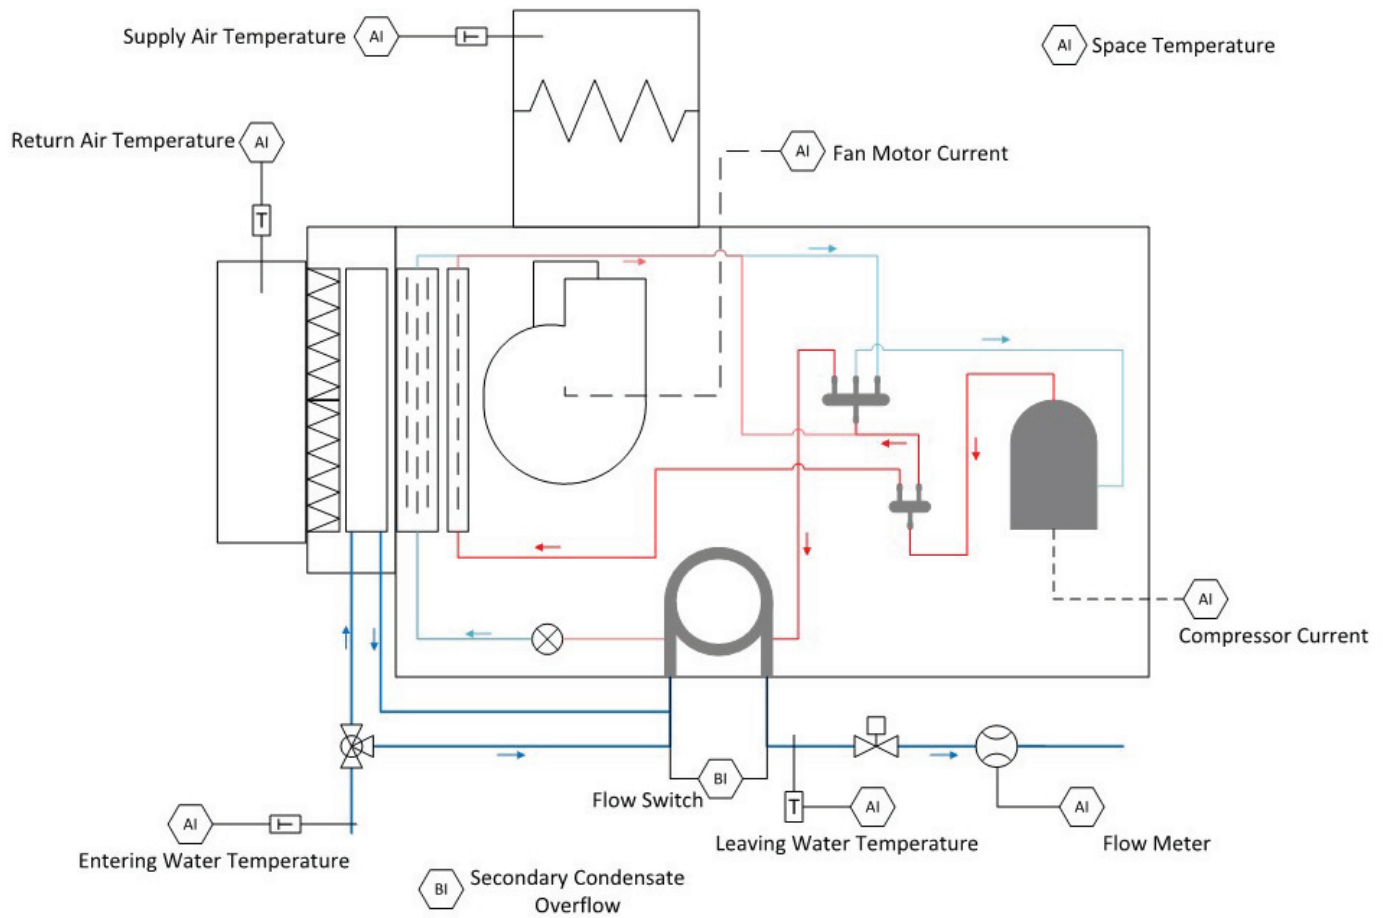

Fig. 7 — Sensor Schematic
1. Place the sensor in the middle of the duct away from temperature stratified air, coils or humidifiers to achieve the best temperature reading. Refer to Fig. 7.